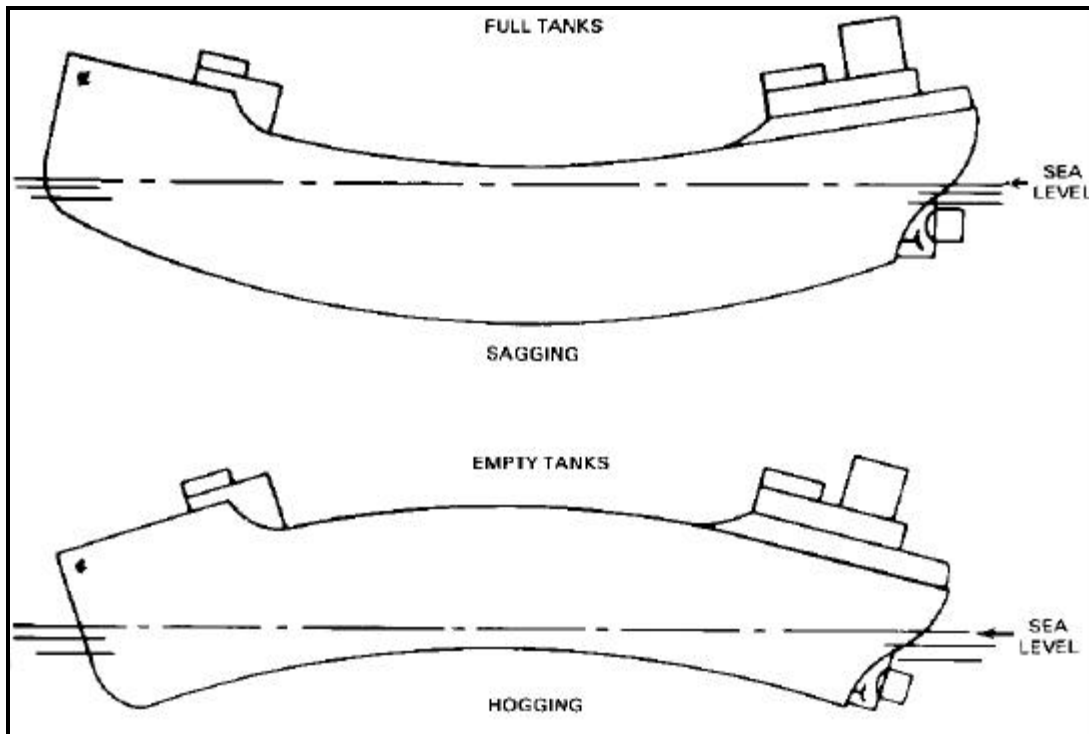

Figure 4-9. Sagging and hogging of vessels
- **Sag.** A vessel sags when the middle of its structure sinks below the bow and stern (Figure 4-9, page 4-9). A loaded tank vessel tends to sag due to the weight of the cargo in the tank section. It is most noticeable midship. Sagging may cause excess stress if the weight is concentrated in the midship cargo tank section. Since sag reduces freeboard, the amount of cargo that can be carried is reduced. Sagging can be reduced if more weight is put in the end tanks and less weight is put in the center tanks. Weight should not be concentrated in any one section even while tanks are being loaded.
- **Hog.** A vessel hogs when the bow and stern are lower than the midship section (Figure 4-9, page 4-9). An empty vessel tends to hog because the bow and stern sections weigh more than the midship. Hogging causes the center of the vessel to carry most of the stress. Hogging can be avoided with proper loading and ballasting. Tables supplied with each vessel can be used to determine bow-to-stern stress while the vessel is being loaded and ballasted.